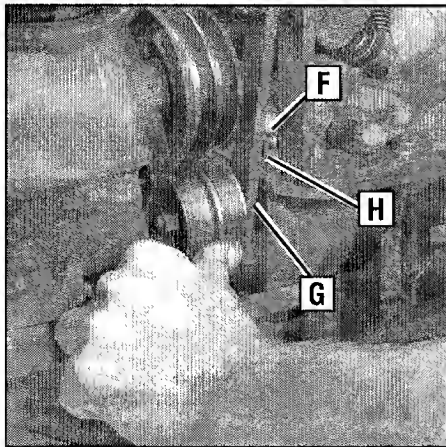

Figure 5-11: Remove clevis pin from outer hole in forward adjustable link and move to inner hole in link.
6. On the left side of the unit (as viewed from operator's position) remove the hairpin cotter from the clevis pin (F, Figure 5-11) that connects the forward idler arm (G) to the forward adjustable link (H). Push inward on the forward idler arm (G) and remove the clevis pin (F).
7. There are two holes in the forward adjustable link (H, Figure 5-11). Push inward on the forward idler arm (G) and install the clevis pin (F) through the inner hole in the forward adjustable link (H) and out through the single hole in the forward idler arm (G). Secure the clevis pin with the hairpin cotter. NOTE: While pushing inward on the forward idler arm, be sure that the forward drive belt is moved off to the right side of the tiller. This creates more room to install the clevis pin when the forward idler arm is pushed inward.